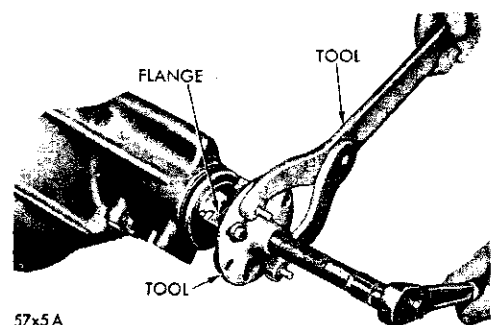

Fig. 9—Removing Companion Flange
(1) With the companion flange up, hold the flange with holding Tool C-3281 and remove the pinion shaft nut and Belleville washer.
(2) Install the companion flange puller Tool C-452 and remove the flange (Fig. 9).
(3) Install the oil seal puller Tool C-748 by screw-